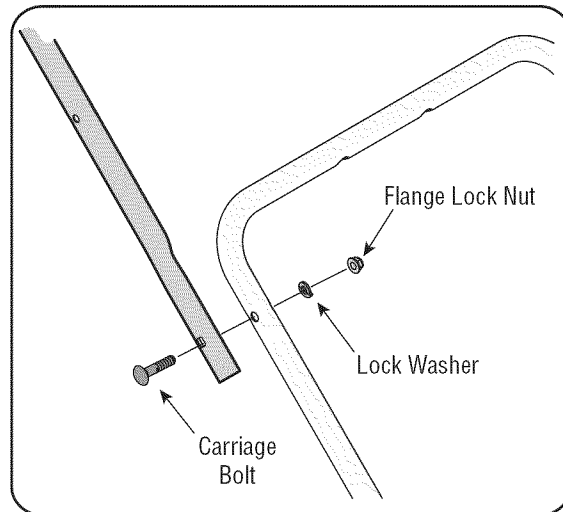

Figure 3
- Secure the upper handle to the lower handle using the carriage bolts, lockwashers and hex nuts, see Figure 3. Make sure that the carriage bolt heads go on the outside of the handle.